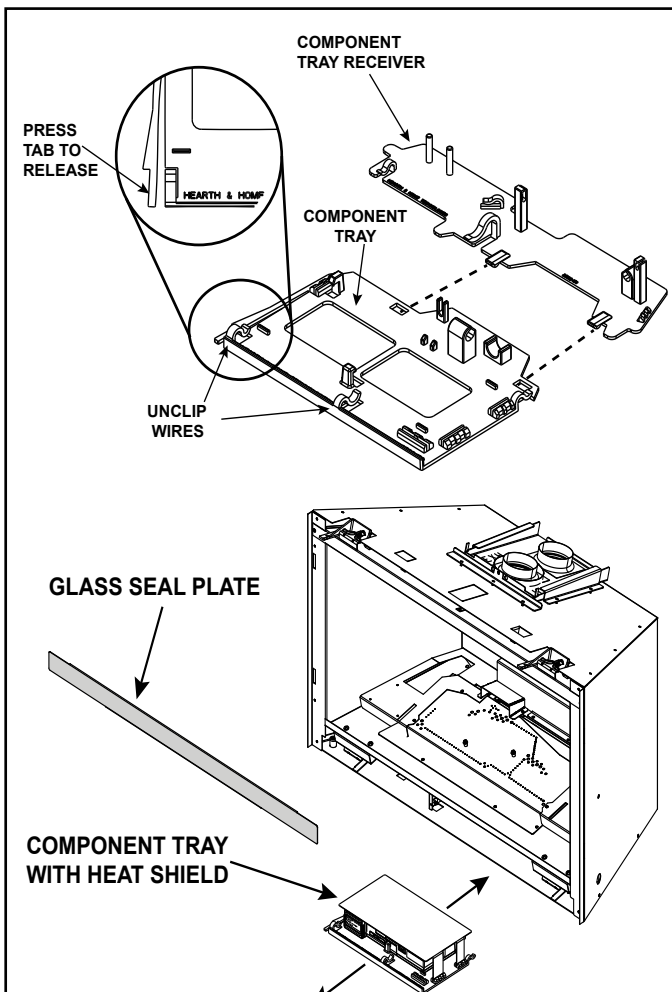

Figure 4.4 Component Tray Access
- For access, slide out component tray. See Figure 4.4.
**Note:** Wires may need to be removed from clips for full access. See Figure 4.4.